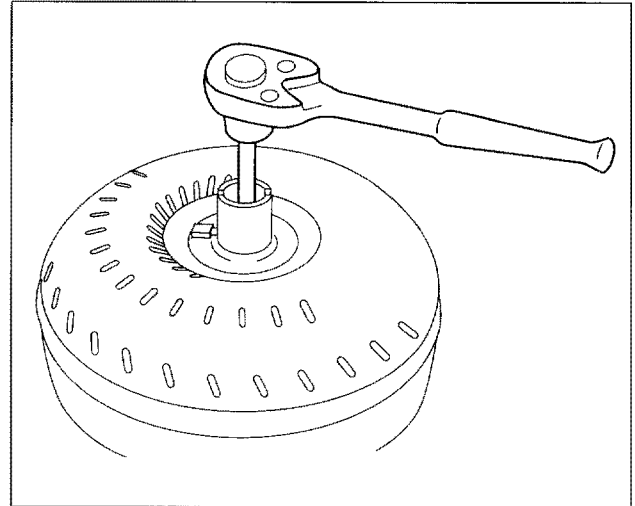

Figure 41. One-way Clutch Test
- Check the one-way clutch of the torque converter by using the special tools (figure 41).